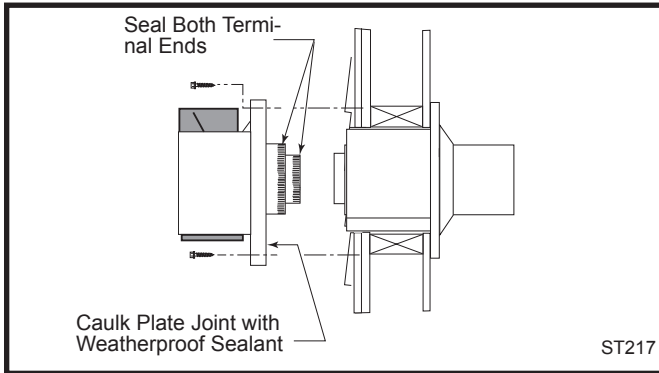

Fig. 28 Install the vent terminal.
10. Install the vent terminal. (Fig. 28) Guide the inner and outer vent termination collars into the adjacent pipes. Double check that the vent pipes overlap the collars by 2". Fasten the termination to the wall with the screws provided, and caulk the joint with weatherproof sealant.